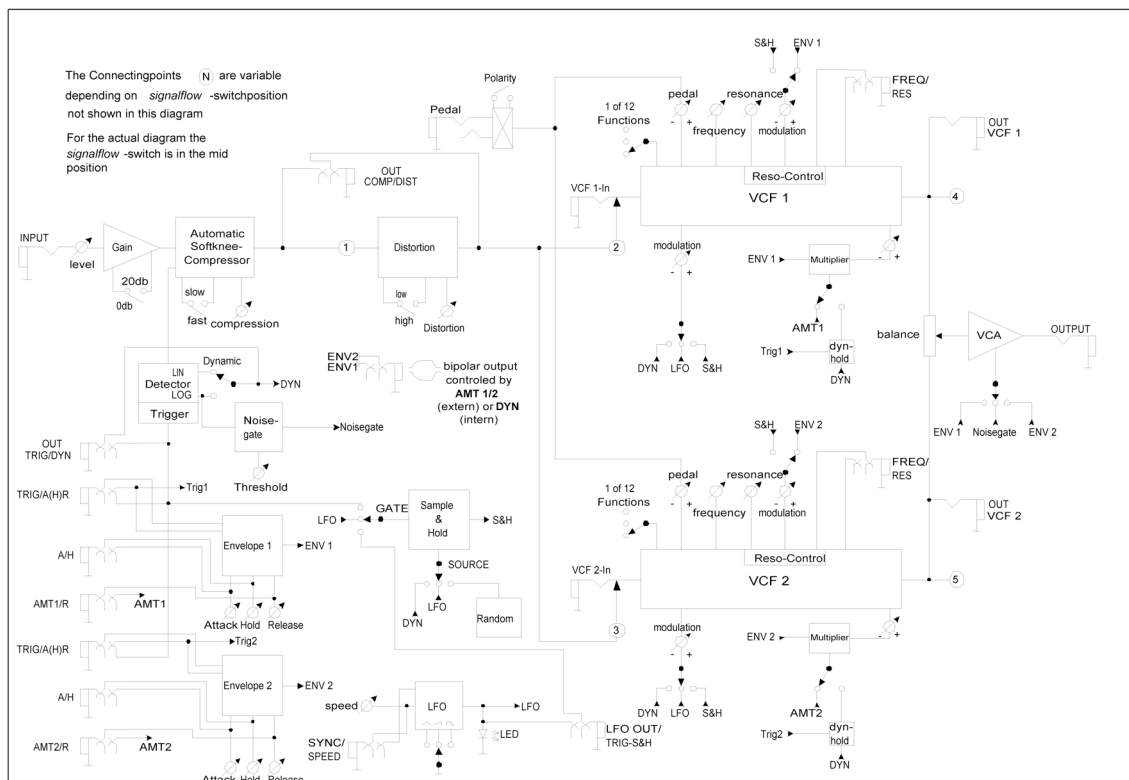

Fig. 9.8.1 Complete circuitry, [signalflow]-sitch in center position
Fig. 9.8.1 shows an overview of the complete circuitry including all audio- and modulation paths. Since the internal routing of both filters and the overdrive depends on the position of the **[signalflow]**-switch (2), the signal flow in the figure corresponds to its center position. Fig. 9.8.2 shows the respective audiopath for both other switch-positions in an oversimplification.